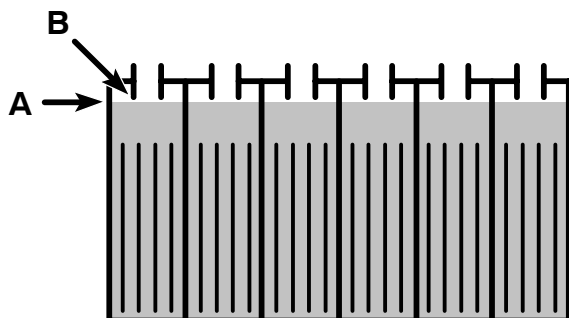

FIG. 24
7. After charging, check the electrolyte level (A) again. The level should be approximately 1 cm (3/8") from the bottom of the fill-port (B) (Figure 24). Add distilled water if needed. DO NOT OVERFILL.